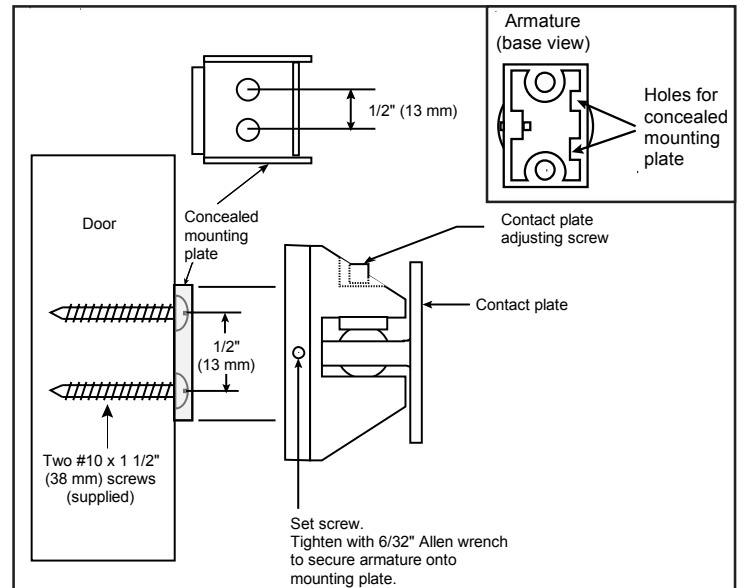

Figure 7. Surface Concealed Mounting
- b. **Surface concealed mounting (Figure 7).** Measure two points for 1/8" holes drilled 1/2" on center equidistant from each marked point. Center punch the holes and drill 1/8" diameter x 1 1/4" deep. Install the concealed mounting plate using the two #10 x 1 1/2" screws provided.
Align the holes for the concealed mounting plate in the armature base with the pins on the concealed mounting plate. Secure the armature assembly, with the contact plate adjust screw facing up as shown in Figure 7, to the door by tightening the set screw.